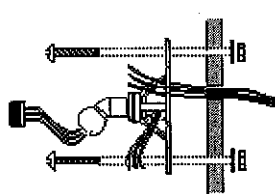

Fig. 1
5. Insert low voltage wiring harness through the mounting bracket legs. Secure bracket to the wall or ceiling. To install mounting bracket to a wall, use nut/bolt combination as shown in Fig. 1 below.